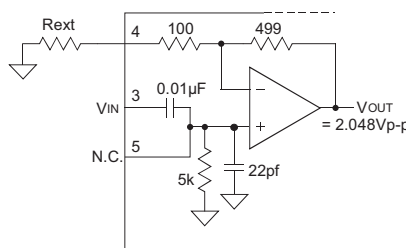
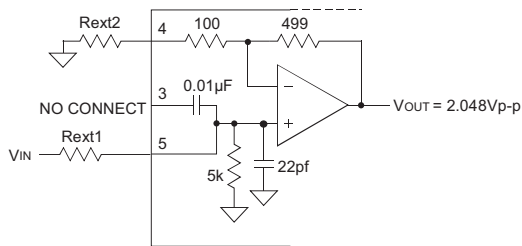
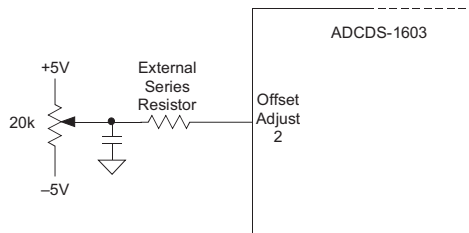

Figure 2b. Direct Mode
Figure 2d. Non-inverting Mode
Figure 3. Offset Adjustment Circuit
- Offset adjustment resistor (Figure 3), Rext (Figure 2b, 2c, & 2f), and Rext₁ & Rext₂ (Figure 2d) should be placed as close to the ADCDS-1603 as possible.
When applying inputs that are less than 2.048Vp-p, a coarse gain adjustment (applying an external resistor to pin 4) must be performed to ensure that the full scale pixel data input signal (saturated signal) produces 2.048Vp-p signal at the input-amplifier's output (V_{OUT}) (See figure 2b & 2c).
The ADCDS-1603 achieves its specified accuracies without the need for external calibration. If required, the device's small initial offset error can be reduced to zero using the OFFSET ADJUST (pin 2) feature (See figure 3). For fine gain adjustment model, contact the factory.
Figure 2b. describes the configuration for applications using a pixel data input signal with an amplitude greater than 0.342Vp-p and less than 2.048Vp-p. Using a single external series resistor, the coarse gain of the ADCDS-1603 can be set. The coarse gain of the input amplifier can be determined from the following equation: V_{OUT} = 2.048Vp-p = V_{IN}* (1+(499/(100+Rext))) (all internal resistors having a 0.1% tolerance).
Figure 2d. describes the typical configuration for applications using a pixel data input signal whose amplitude is greater than 2.048Vp-p. Using a single external series resistor (Rext 1) in conjunction with the internal 5K (1%) resistor to ground, an attenuation of the input signal can be achieved. The coarse gain of this circuit can be determined from the following equation:
Manual offset adjustment for the ADCDS-1603 can be accomplished using the adjustment circuit shown in Figure 3. A software controlled D/A converter can be substituted for the 20KΩ potentiometer. The offset adjustment feature allows the user to adjust the Offset/Dark Current level of the ADCDS-1603 until the output bits are 00 0000 0000 0000 and the LSB flickers between 0 and 1. The ADCDS-1603's offset adjustment is dependent on the value of the external series resistor used in the offset adjust circuit (Figure 3) and the gain of the input-amplifier.